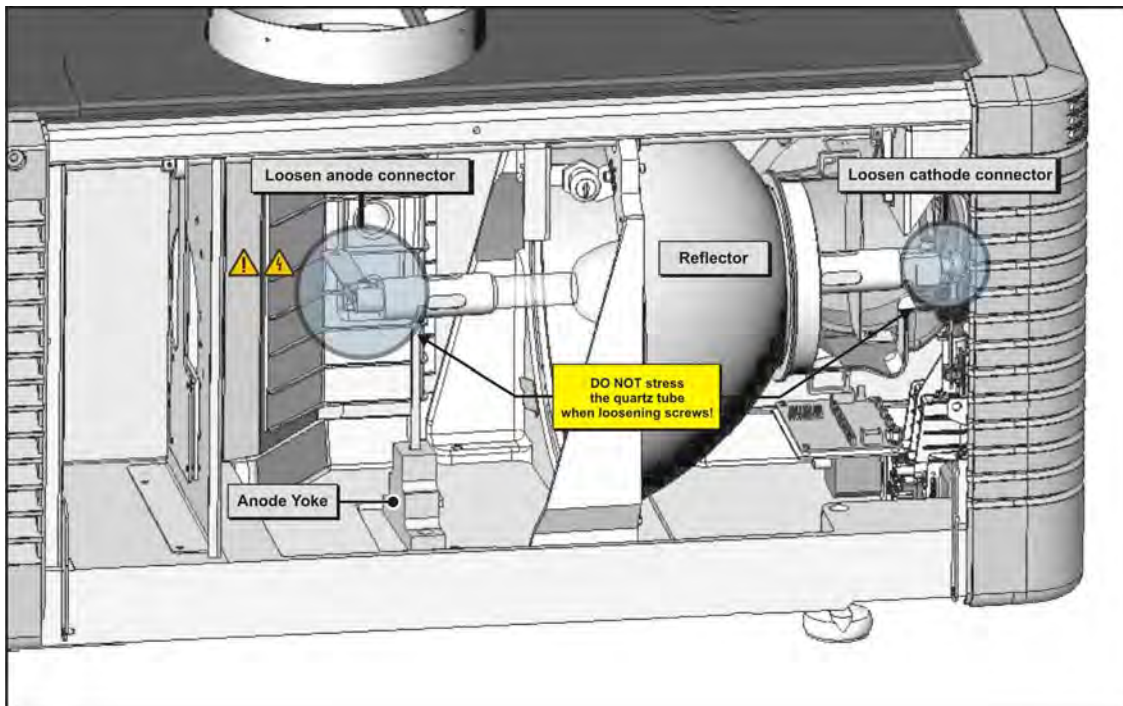

Figure 5-56 Remove Lamp
- b. Loosen the screw on the cathode nut and anode clamp. (Figure 5-56)